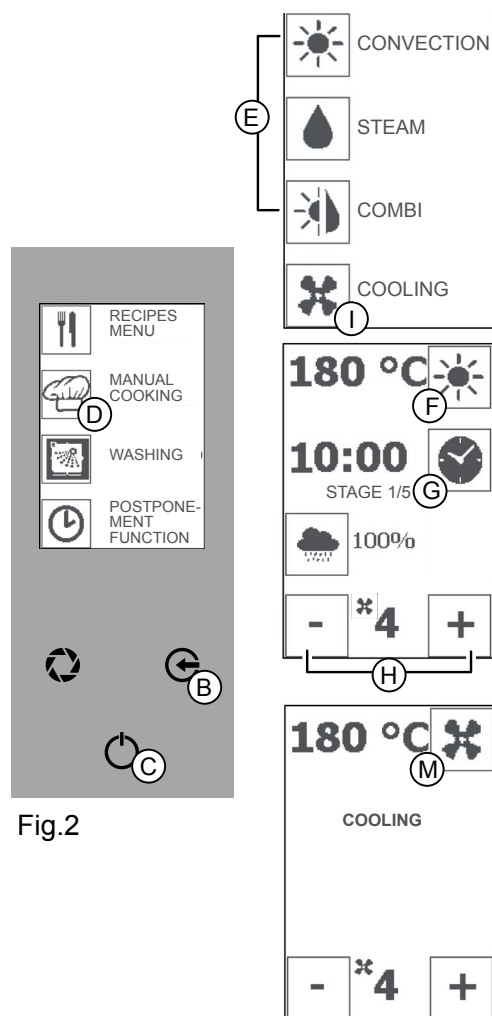

Fig.2
Press the "MANUAL COOKING" icon (Fig 2/D) and the cooking type required (Fig 2/E).
2. Press the "MINUS" and "PLUS" icons (Fig 2/H) to set a value between 1 and 6.
Press the "ESC" key (Fig 2/B) several times to interrupt the function and return to the Home Page.
2. Press and hold the "TEMPERATURE" icon (Fig 2/F).
Press the "ENTER" key (Fig 2/C) to activate the function.
Press the "ENTER" key (Fig 2/C) and the "ESC" key to stop pre-heating and return to the Home Page.
When preheating is done, "LOAD" appears on the display (Fig. 2- Display 2): Open the door and place the product inside. Then close the door of the oven. The selected cooking mode will start.
Press the "MANUAL COOKING" icon (Fig 2/D) and the "COOLING" icon (Fig 2/I).
Press the "VENTILATION" icon (Fig 2/M) and use the "MINUS" and "PLUS" icons (Fig 2/H) to set the required temperature **to at least 40 °C**. Press the "ENTER" key (Fig 2/C) to activate the function.
The corresponding display will appear (Fig 2/L)
Press the "ESC" key (Fig 2/B) several times to return to the Home Page.